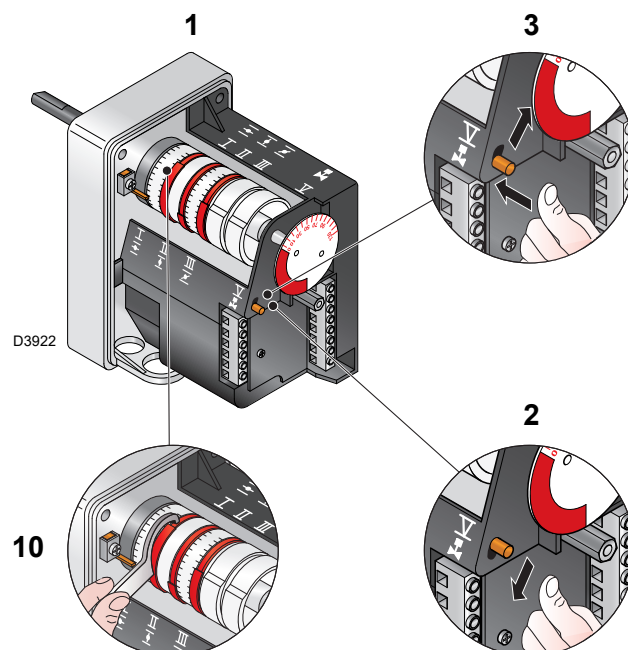

Fig. 31
- For any necessary adjustment of cam III, especially for small movements, use the specific key 10)(Fig. 31) held in place beneath the servomotor with the aid of a magnet.
Key (Fig. 31)